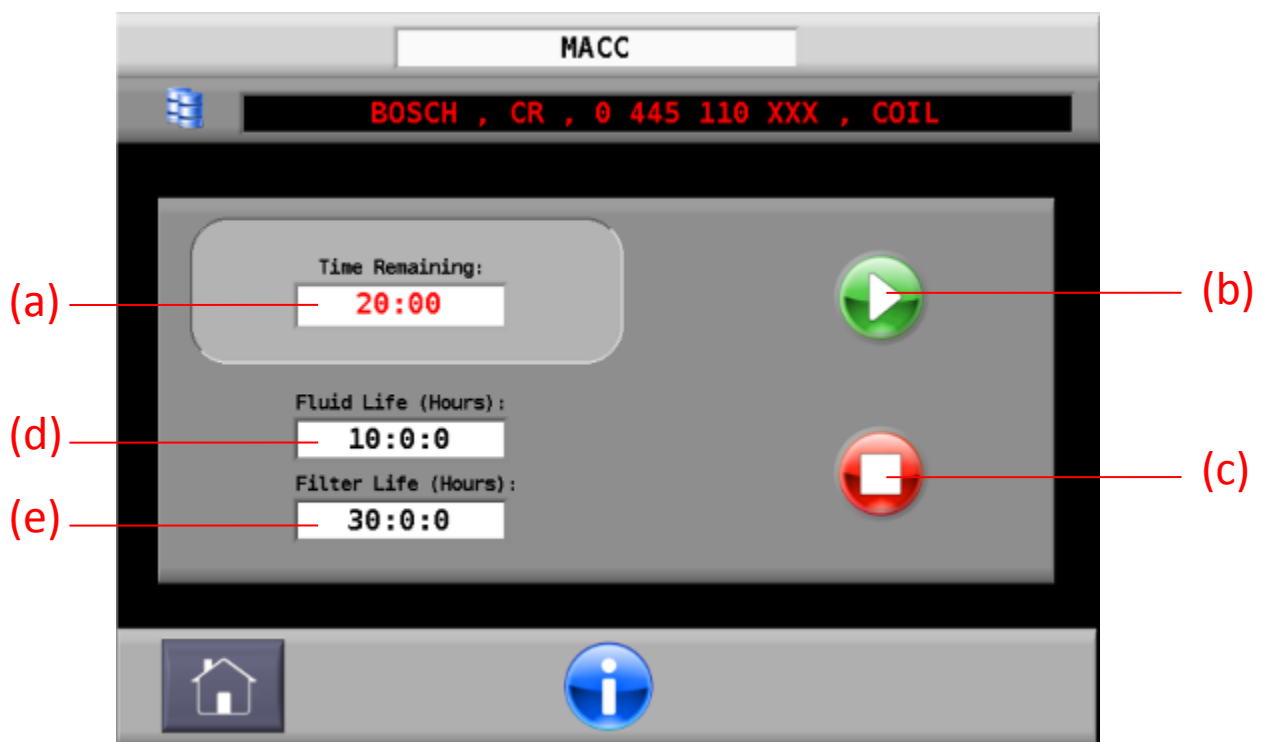

Figure 4-xii
- a. **Spray Test:** If the Spray Test was active before beginning the AUTO procedure, it will be performed here. Figure 4-xiii (a.1) indicator displays the status of this test.
- b. **eRLC Test:** The AUTO procedure will perform a Resistance/Inductance test if a coil injector is selected, otherwise a Capacitance test will be performed for Piezo injectors. Figure 4-xiii (b.1) indicator displays the status of this test.
- c. **Leak Test:** The AUTO procedure will perform a Leak test (for Coil Injector only), in order to check the injectors return valve. Figure 4-xiii (c.1) indicator displays the status of this test.